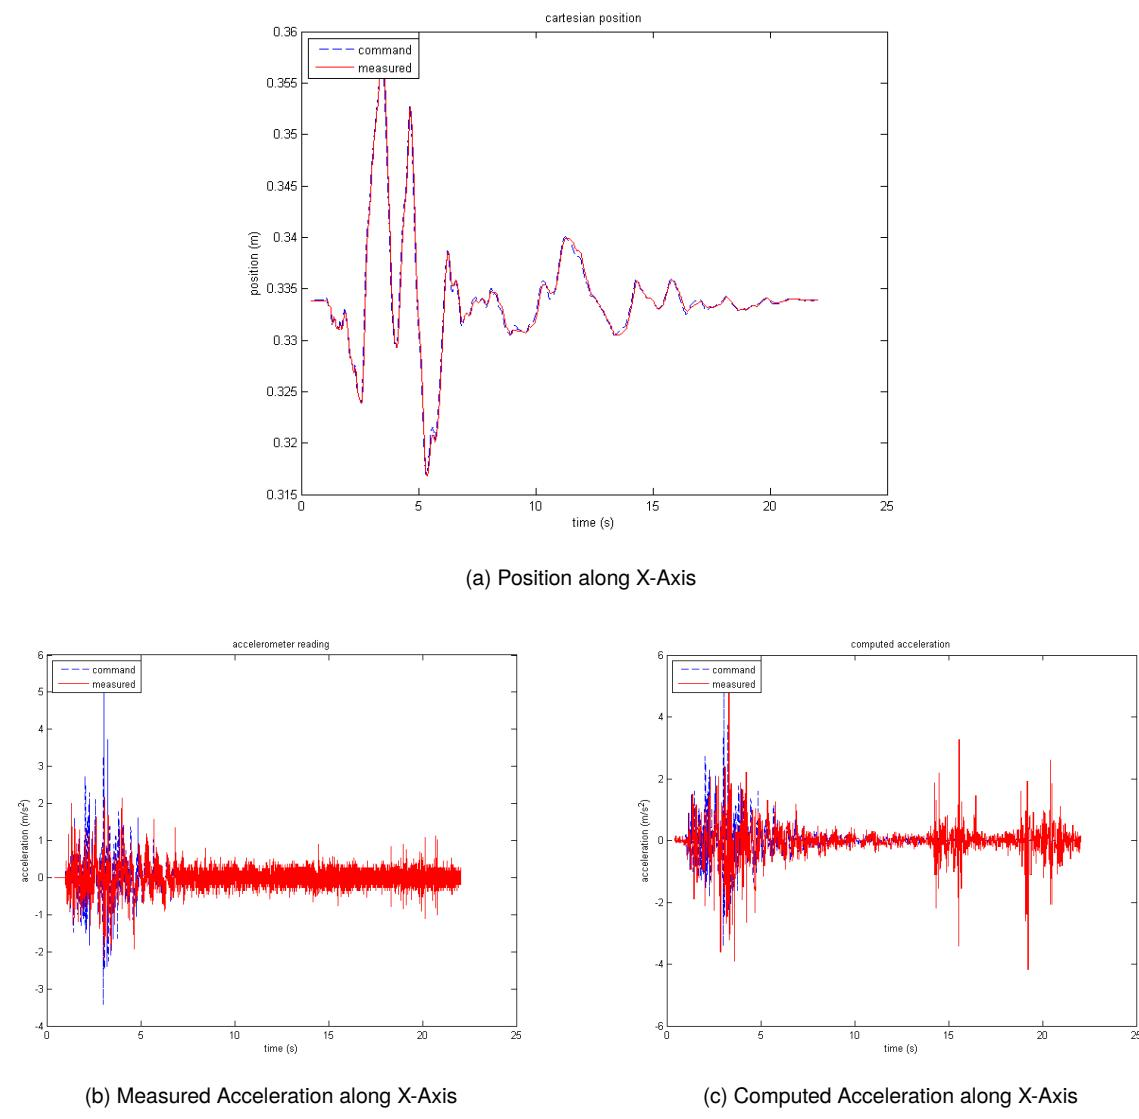

Figure 2.9: Hexapod stage position and acceleration when running Northridge earthquake.
7. Typical position and acceleration responses when running the Northridge earthquake is shown in Figure 2.9 for the x-axis.